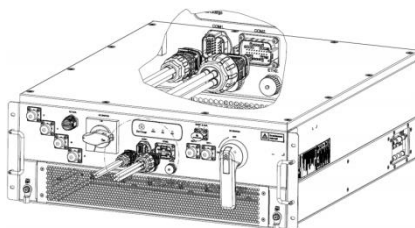

Figure 6-20 COM. communication wiring
Step 4: Insert the COM1. and COM2. plugs into the corresponding sockets of the converter, as shown in Figure 6-20.